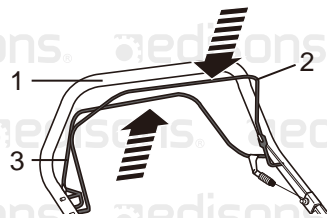

Fig. 12
1. Pull the brake bar (2) towards the handle (1) and hold it in position when starting the engine. Keep it squeezed during operation (Fig. 12).
2. Release the brake bar (2) to stop the engine.